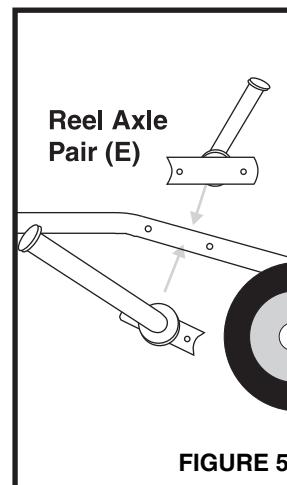

FIGURE 5
6 Attach Reel Axle Pair #3 (E) to the bottom of Support Frame (A) using the 3/8 x 16 x 2-3/8" Carriage Bolts (1), 3/8 x 1" Flat Washers (2) and 3/8 x 16 Nylon-Insert Locknuts Hex Thin (5) as shown in Figure 5.